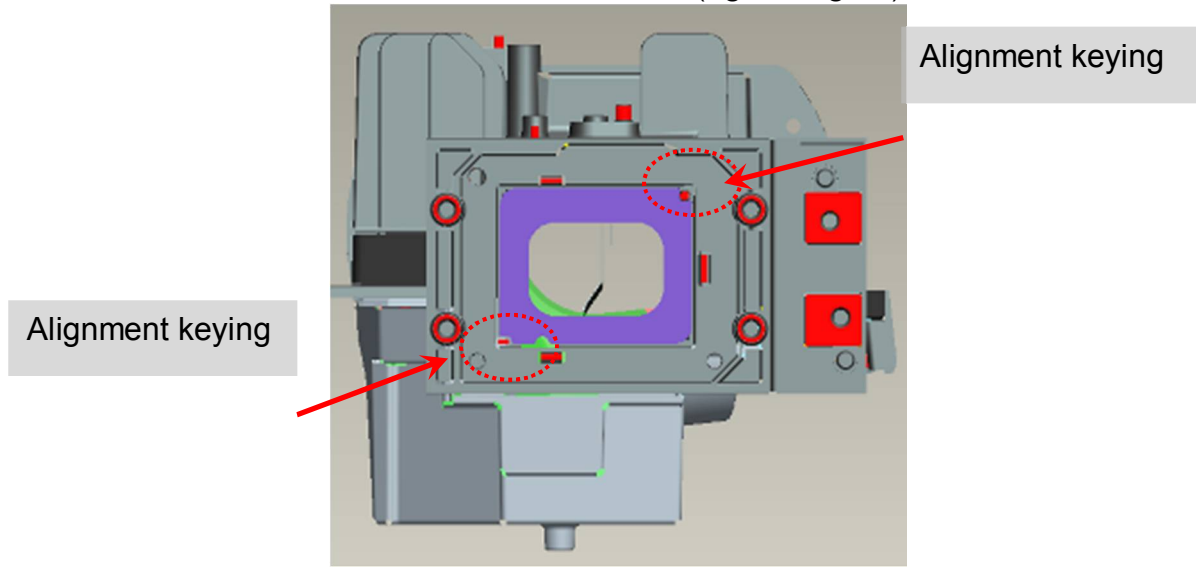
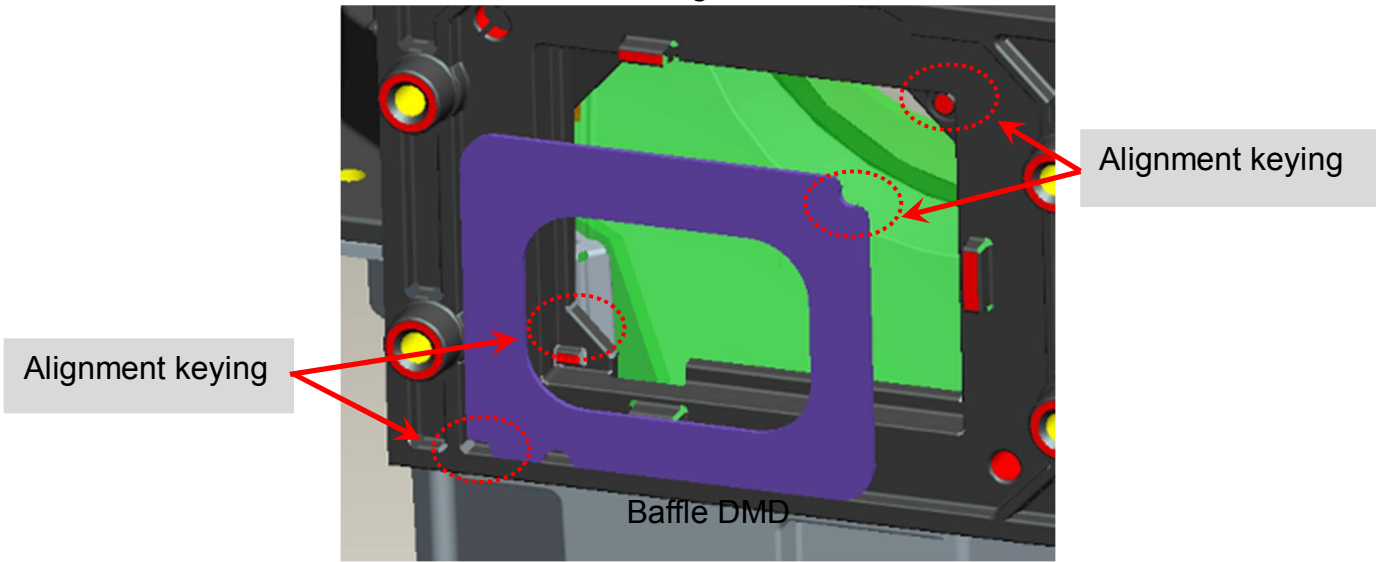

Fig. 5-1-1
Fig. 5-1-2
- A. Assemble "Baffle DMD" to "HSG DMD" (Fig.5-1-1 & Fig.5-1-2).